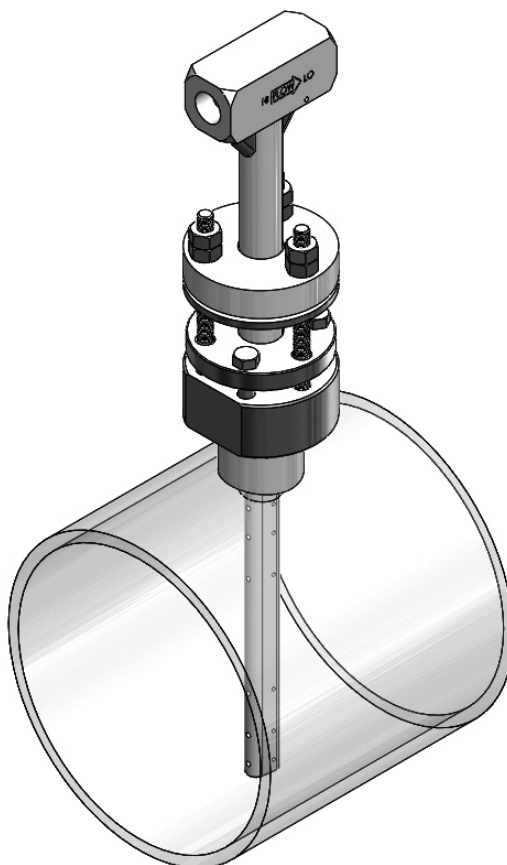

Figure 7. Installed V150
6.1 The Verabar® is now properly installed (Figure 7).